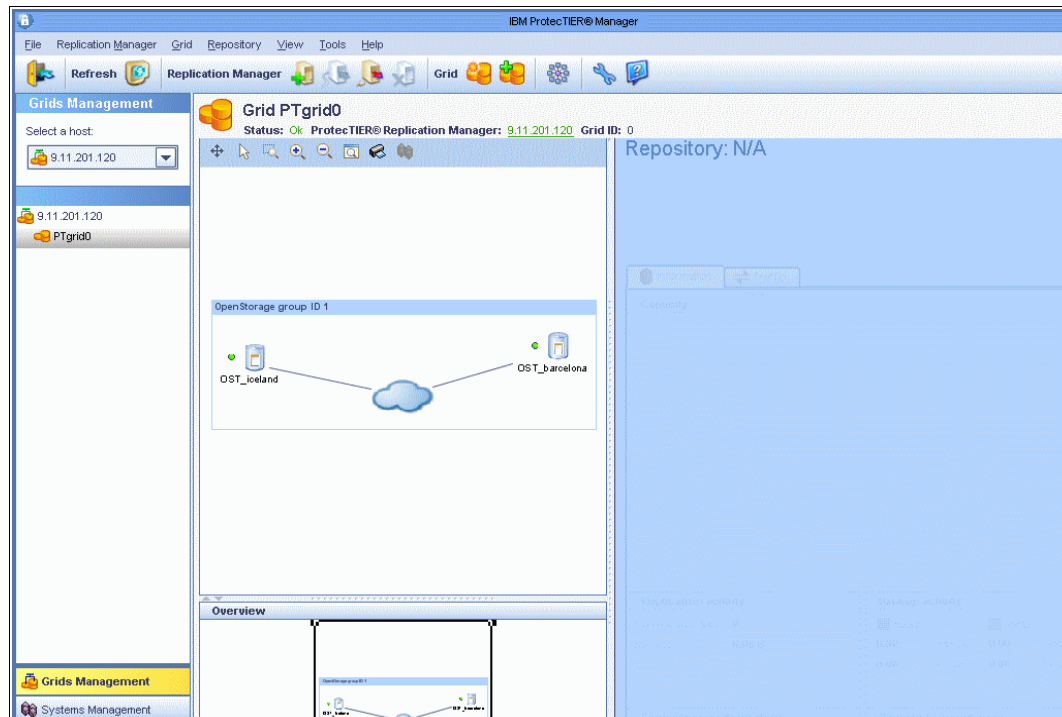

Figure 9-38 Application group
5. Complete the creation of the application group (Figure 9-38).